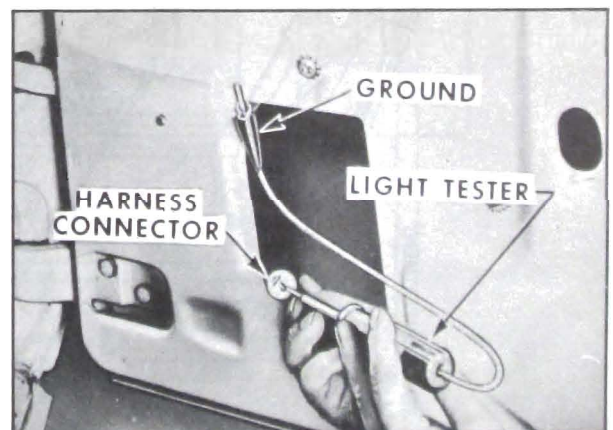

Figure 8-6—Checking Circuit Between Switch and Motor
c. With light tester check for current at terminal being checked. If tester does not light, there is an open or short circuit in the harness between the control switch and motor connector. See Figure 8-6.